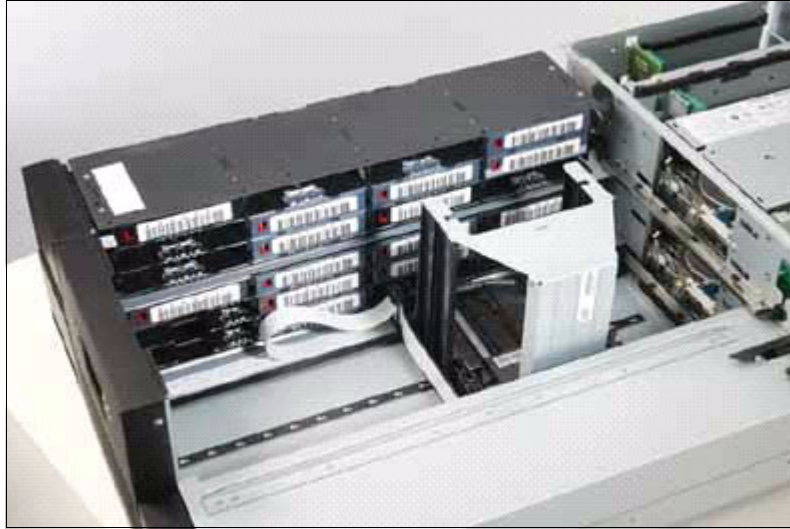

Figure 12-3 TS3200 internal view
- ▶ Figure 12-3 shows the internal view of TS3200.